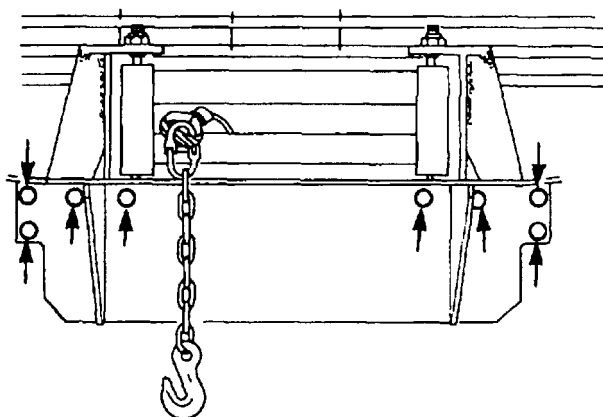

Figure 200 Front Fairlead Removal
- a. Remove the nuts and washers from the mounting bolts (Figure 200).